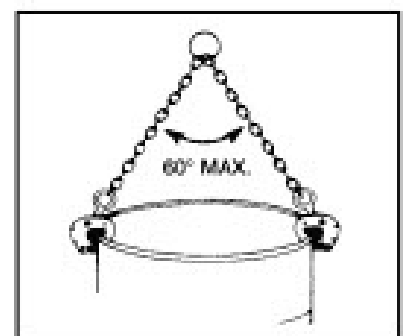

Figure 62
**WARNING!** Do not exceed 60° maximum angle between chain legs (Fig. 62).